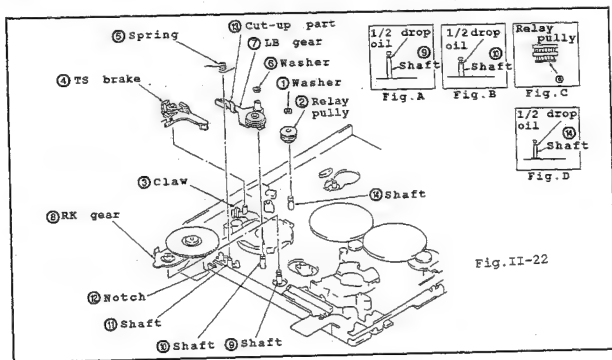

Fig.II-22
• Disassembling (Fig.II-22)
- (1) Set unloading state.
- (2) In the same procedures in "3-3", dismount the capstan motor.
- (3) In the same procedures in "3-13", detach the switch lever.
- (4) In the same procedures in "3-14", detach the timing belt (L), the RC gear, the loading lever, the timing belt (S) and the joint gear.
- (5) To take off the relay pully ②, remove the washer ①.
- (6) To detach the TS brake ④, unhook the claw ③.
- (7) Remove the spring ⑤.
- (8) To detach the LB gear ⑦, remove the washer ⑥.
- (9) Detach the RK gear ⑧.
*Note: When taking off the relay pully ②, do not touch the flange part ⑩.
• Reassembling (Fig.II-22)
- (1) Apply the 1/2 drop of oil to the shaft ⑨. (Fig.A)
- (2) Install the RK gear ⑧ to the shaft ⑨ longitudinally.
- (3) Apply the 1/2 drop of oil to the shaft ⑩. (Fig.B)
- (4) Install the LB gear ⑦ to the shaft ⑩. Then secure it with the washer ⑥.
- (5) Put the spring into the shaft ⑪. Then, hook it to the notch ⑫, and cut-up part ⑬.
- (6) Assemble the TS brake ④, and hook the claw ③.
- (7) Apply the 1/2 drop of oil to the shaft ⑭. (Fig.D)
- (8) Attach the relay pully ② to the shaft ⑭, and secure it with the washer ①.
- (9) In the same procedures in "3-14", attach the timing belt (L), the RC gear, the loading lever, the timing belt (S) and the joint gear.
- (10) In the same procedures in "3-13" and "3-3", install the switch lever and the capstan motor.